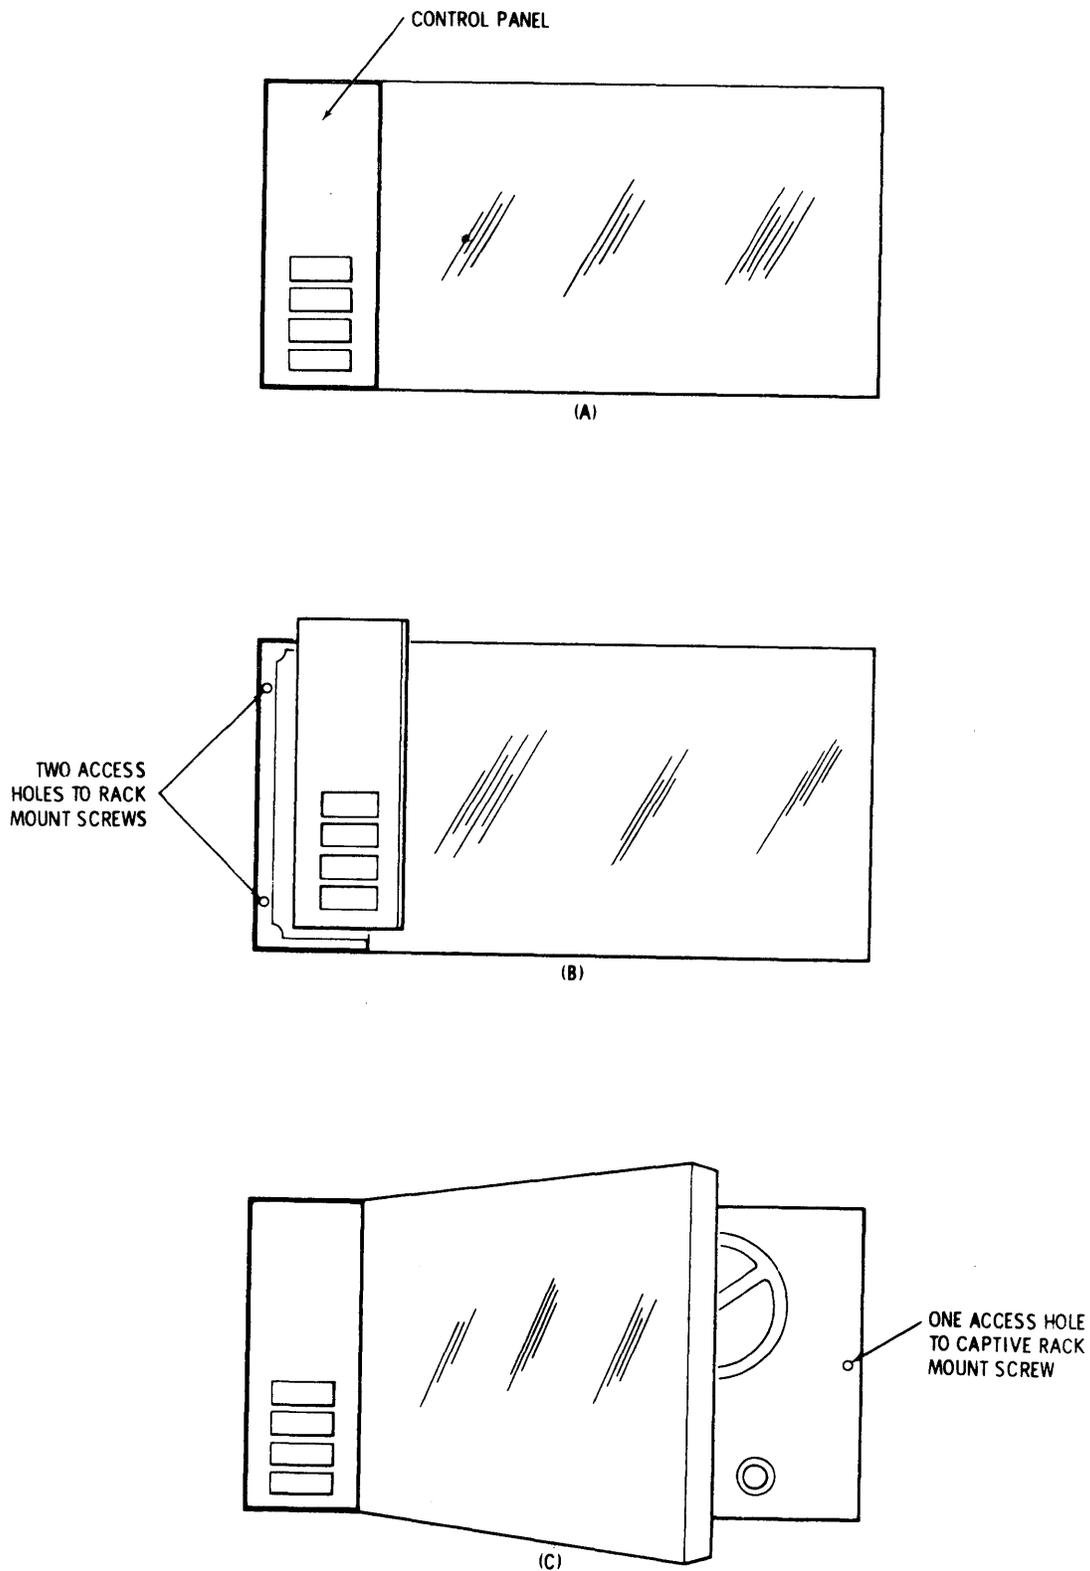

Figure 2-2. Rack Mounting the Tape Unit
The Tape Unit's mounting holes are for a standard EIA rack. Figure 2-2 illustrates the procedure for mounting and Figure 2-3 is an installation diagram with dimensions. To rack mount the Tape Unit, follow this procedure.
- (1) Place the Tape Unit on a flat surface with the reels facing the operator. Locate the socket wrench and the mounting screws supplied with the Tape Unit.
- (2) Remove the control panel located on the left front of the Tape Unit (Figure 2-2(A)). Removal is most easily accomplished by tapping the control panel corners (from the rear) with a screwdriver handle or similar object.
- (3) Remove the three No. 8 1-inch screws holding the Tape Unit to the shipping frame (Figure 2-2 (B) and (C)).
- (4) Locate the Tape Unit in the rack and insert the two socket head screws in the access holes on the left front of the transport. Do not tighten at this point.
- (5) Open the dust cover and locate the single captive screw on the right over the hole in the rack (using the socket wrench) and tighten the screw.
- (6) Tighten the two screws on the left and snap the control panel into position.